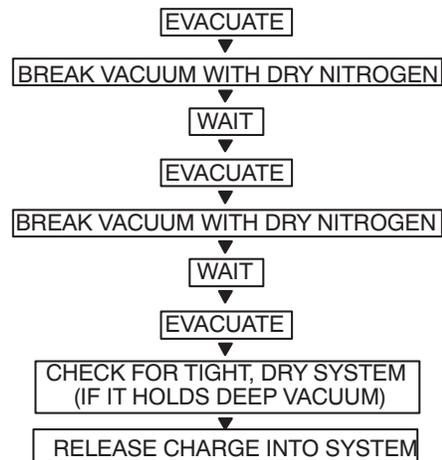

Fig. 11 —Triple Evacuation Method
The triple evacuation method should be used when vacuum pump is not capable of pumping down to 500 microns and system does not contain any liquid water. Refer to Fig. 11 and proceed as follows:
5. Repeat this procedure as indicated in Fig. 11. System is now free of any contaminants and water vapor.